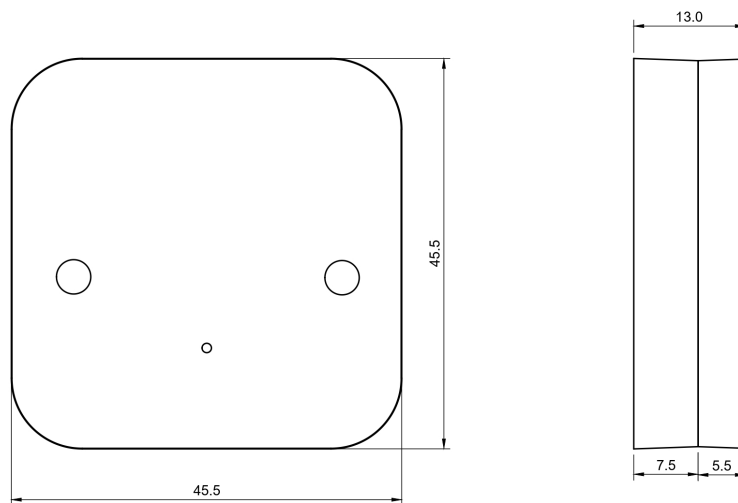

Fig 1: Device Dimensions.
- Figure 1 : Device Dimensions.